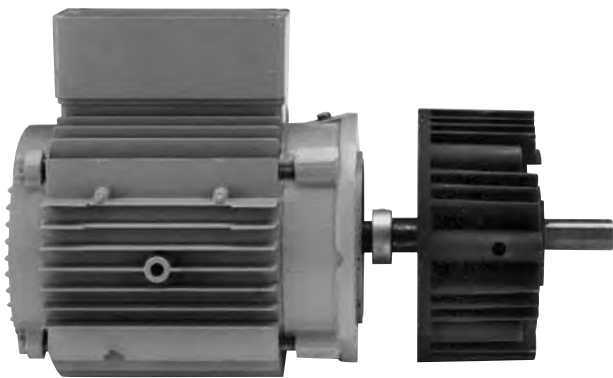

Figure 9
2. A set collar is provided in the EM-180 and EM-210 mounting accessory to prevent the key from sliding out. Slide the set collar up against the motor bearing and tighten the setscrew securely. (Figure 9)